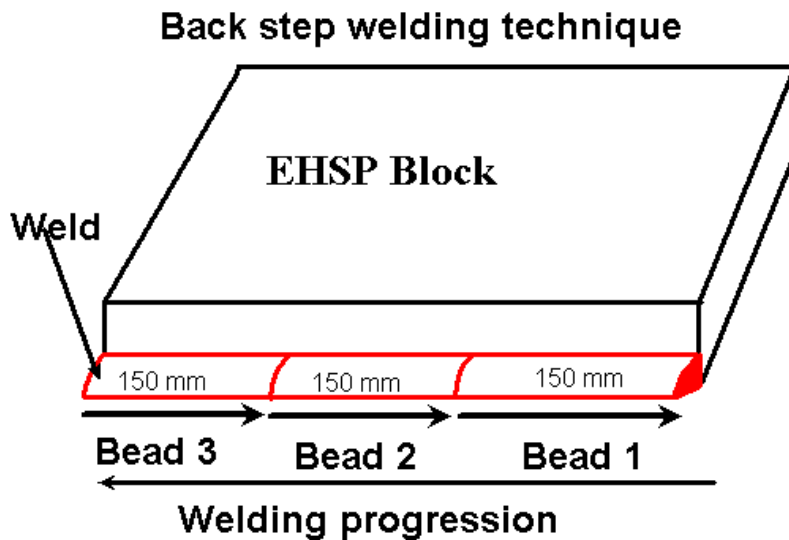

Fig 2. Back step technique to avoid shrinkage, distortion and restraint joint cracking
- In order to control shrinkage, distortion and restraint joint cracking use back-step welding as illustrated in Figure 2.